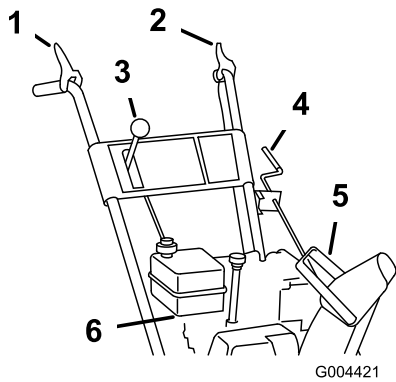

Figure 13
4. Move the speed selector lever (Figure 13) into third gear.